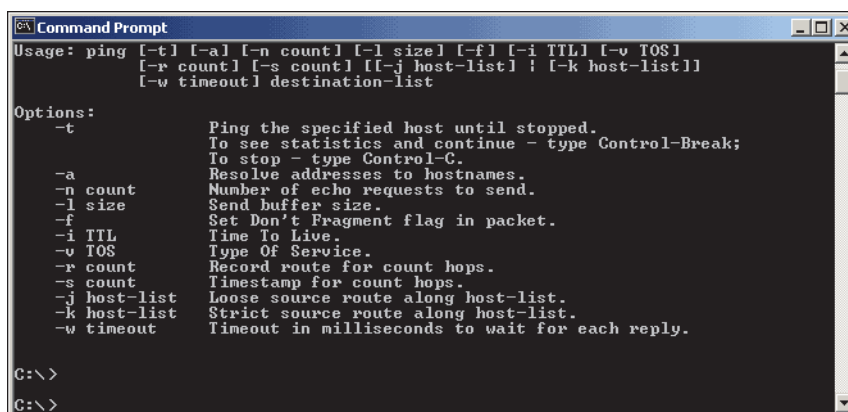

Figure 12.1. Ping menu and options
2. Enter “Ping” at the DOS prompt to view the Ping menu and options (Figure 12.1).